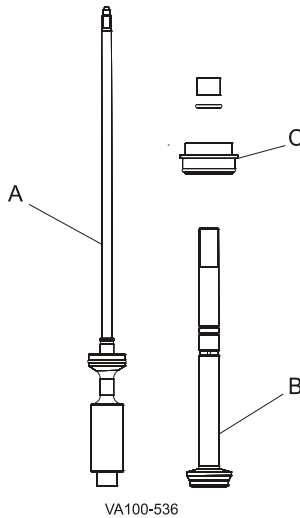

Figure 23 - Stem Removal
2. Upper stem removal: Hold the adjusting sleeve stationary with a spanner wrench, turn the stem (Figure 23, item B) counter-clockwise, and remove it from the actuator. If the adapter (Figure 23, item C) comes out of the yoke, handle it with care.
Table 6: Key for Figure 23